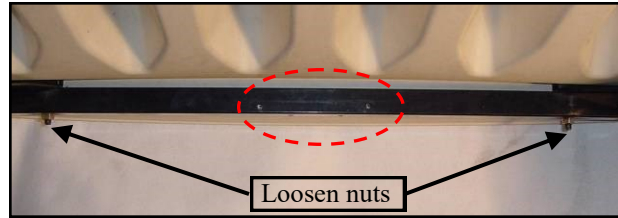

Figure 2.1 (view forward from center of seat)
2.1 Per fig. 2.1, loosen the front roof support bolts shown, with nuts only threaded on a couple of turns.